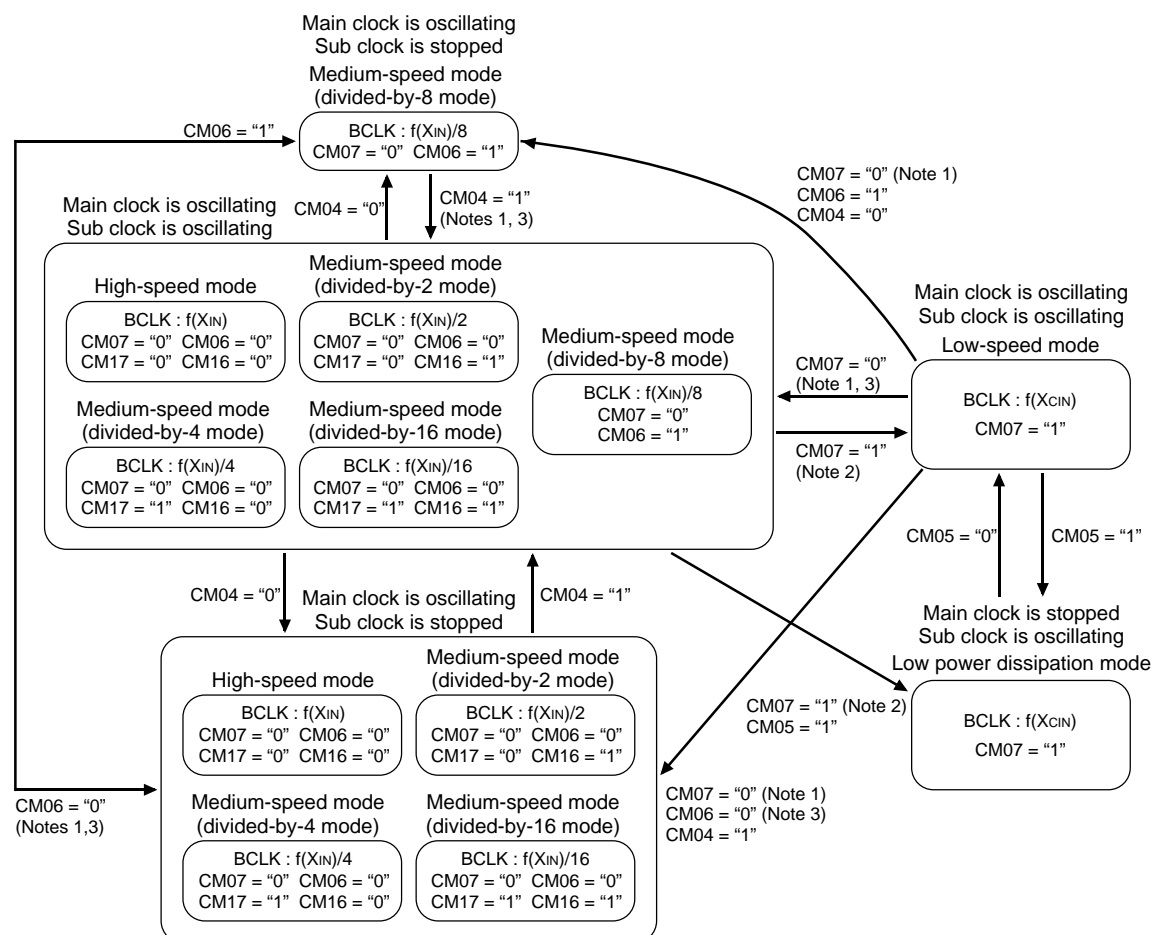

Figure 1.20. Clock transition
Figure 1.20 shows the transition between each of the three modes, (1), (2), and (3).